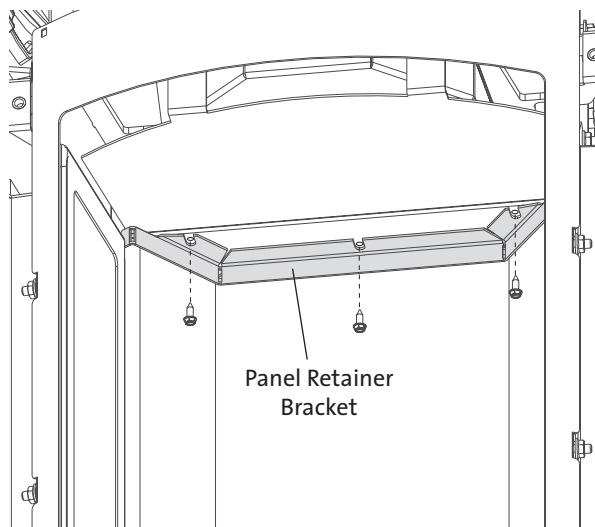

Figure 25. Loosen the panel retainer screws.
- Loosen, but do not remove the three #8 x 12 sheet metal screws that secure the Upper Panel Retainer. Pull the the retainer forward about 1/4 inch. See fig. 25.